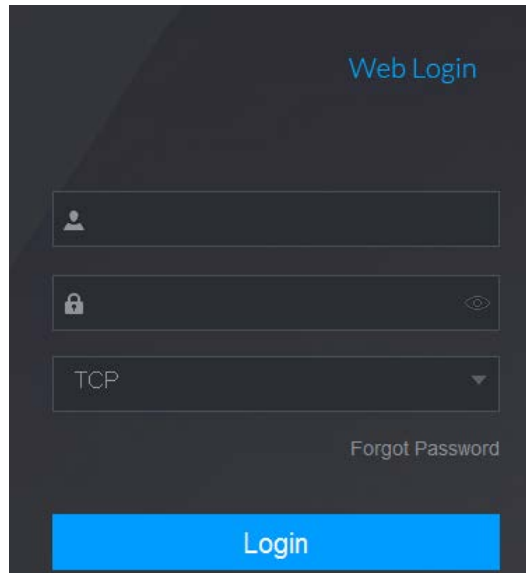

Figure 6-1
Step 1 Open the IE browser, enter the IP address of the Device, and then press Enter. The Login in dialog box is displayed. See Figure 6-1.